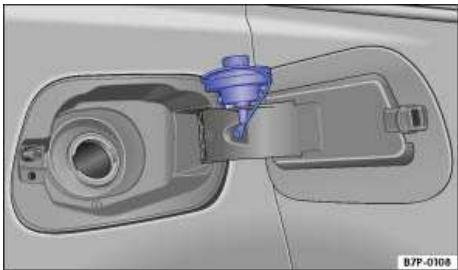

Fig. 306 Fuel cap placed on the open fuel filler flap.
- Unscrew the fuel filler cap counterclockwise remove. Use the receptacle on the filler flap hinge to hold the cap while refueling ⇒ **fig. 306**.
⇒ fig. 306.